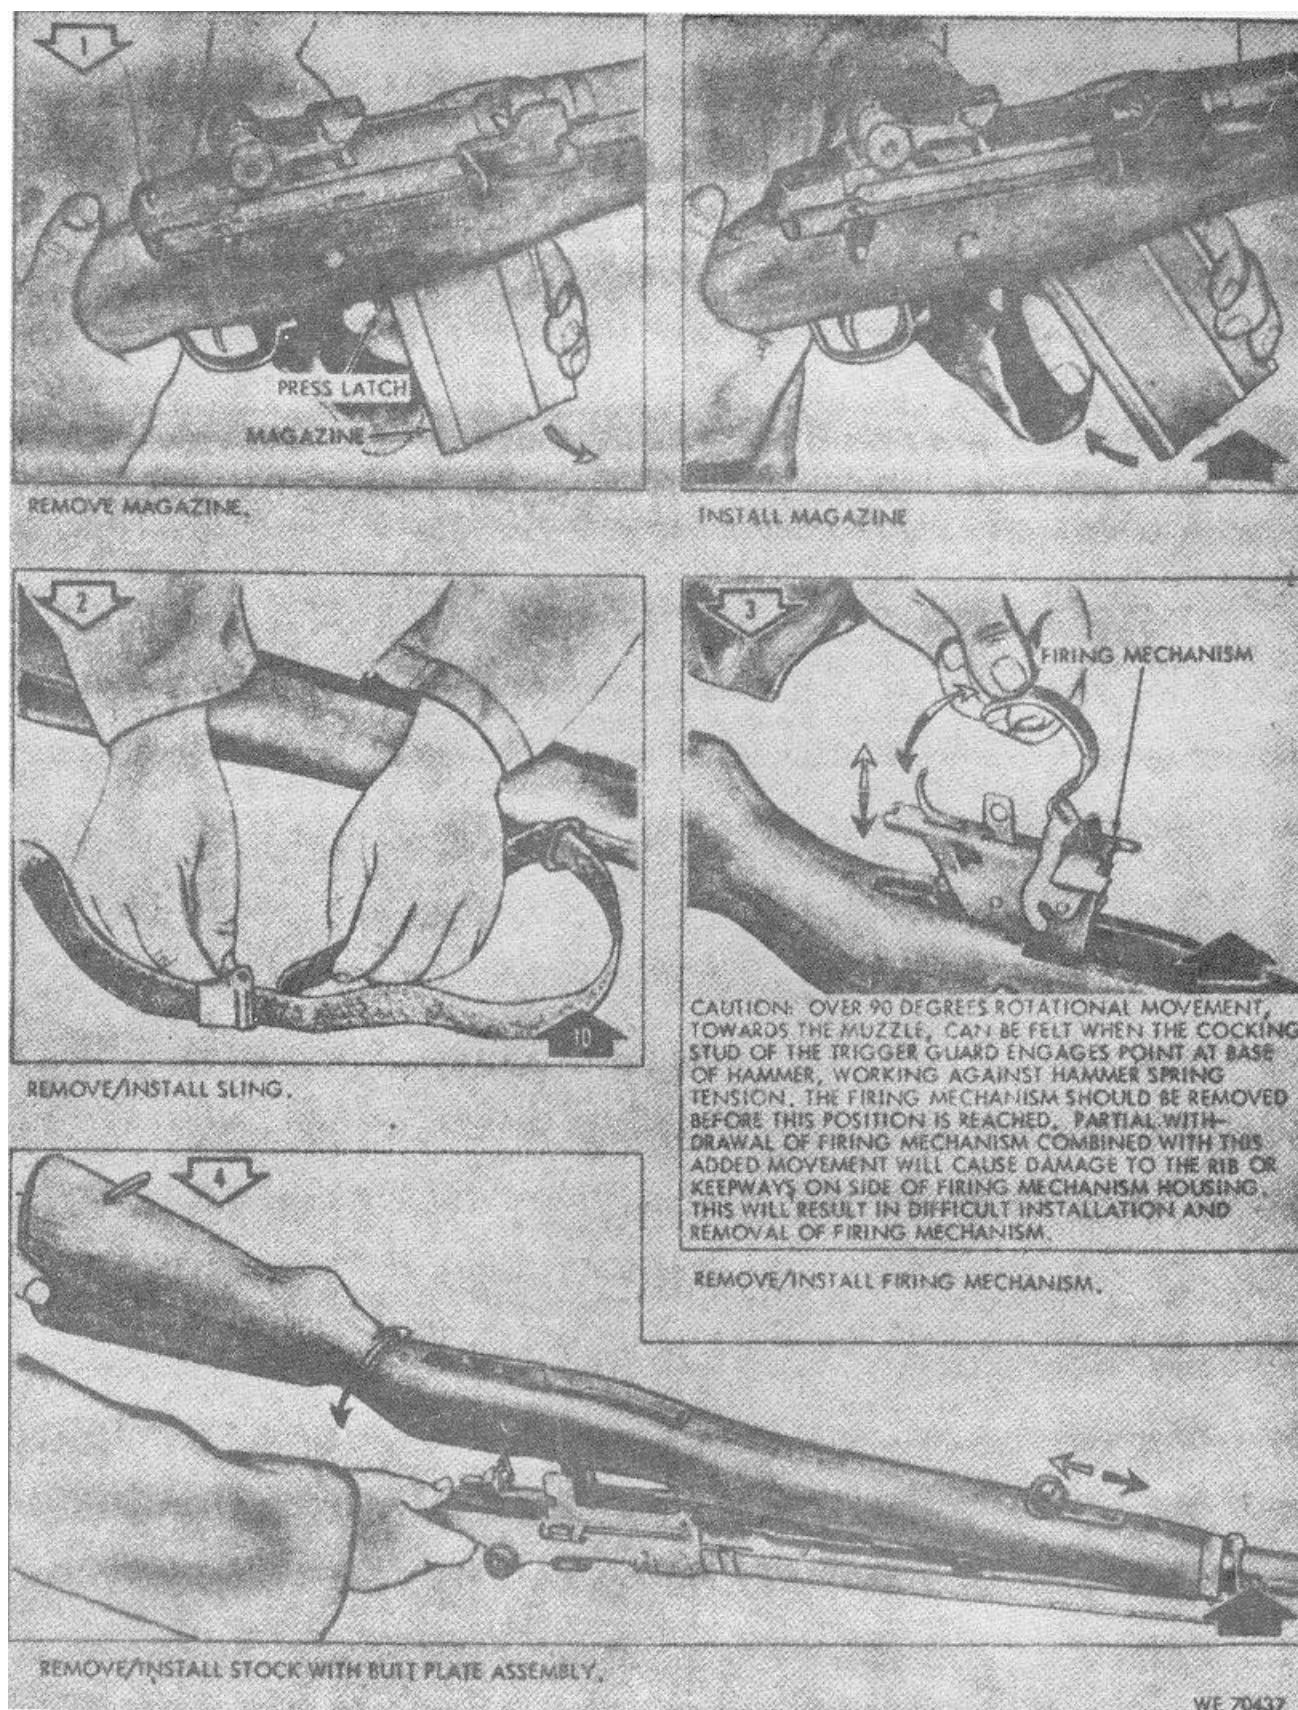
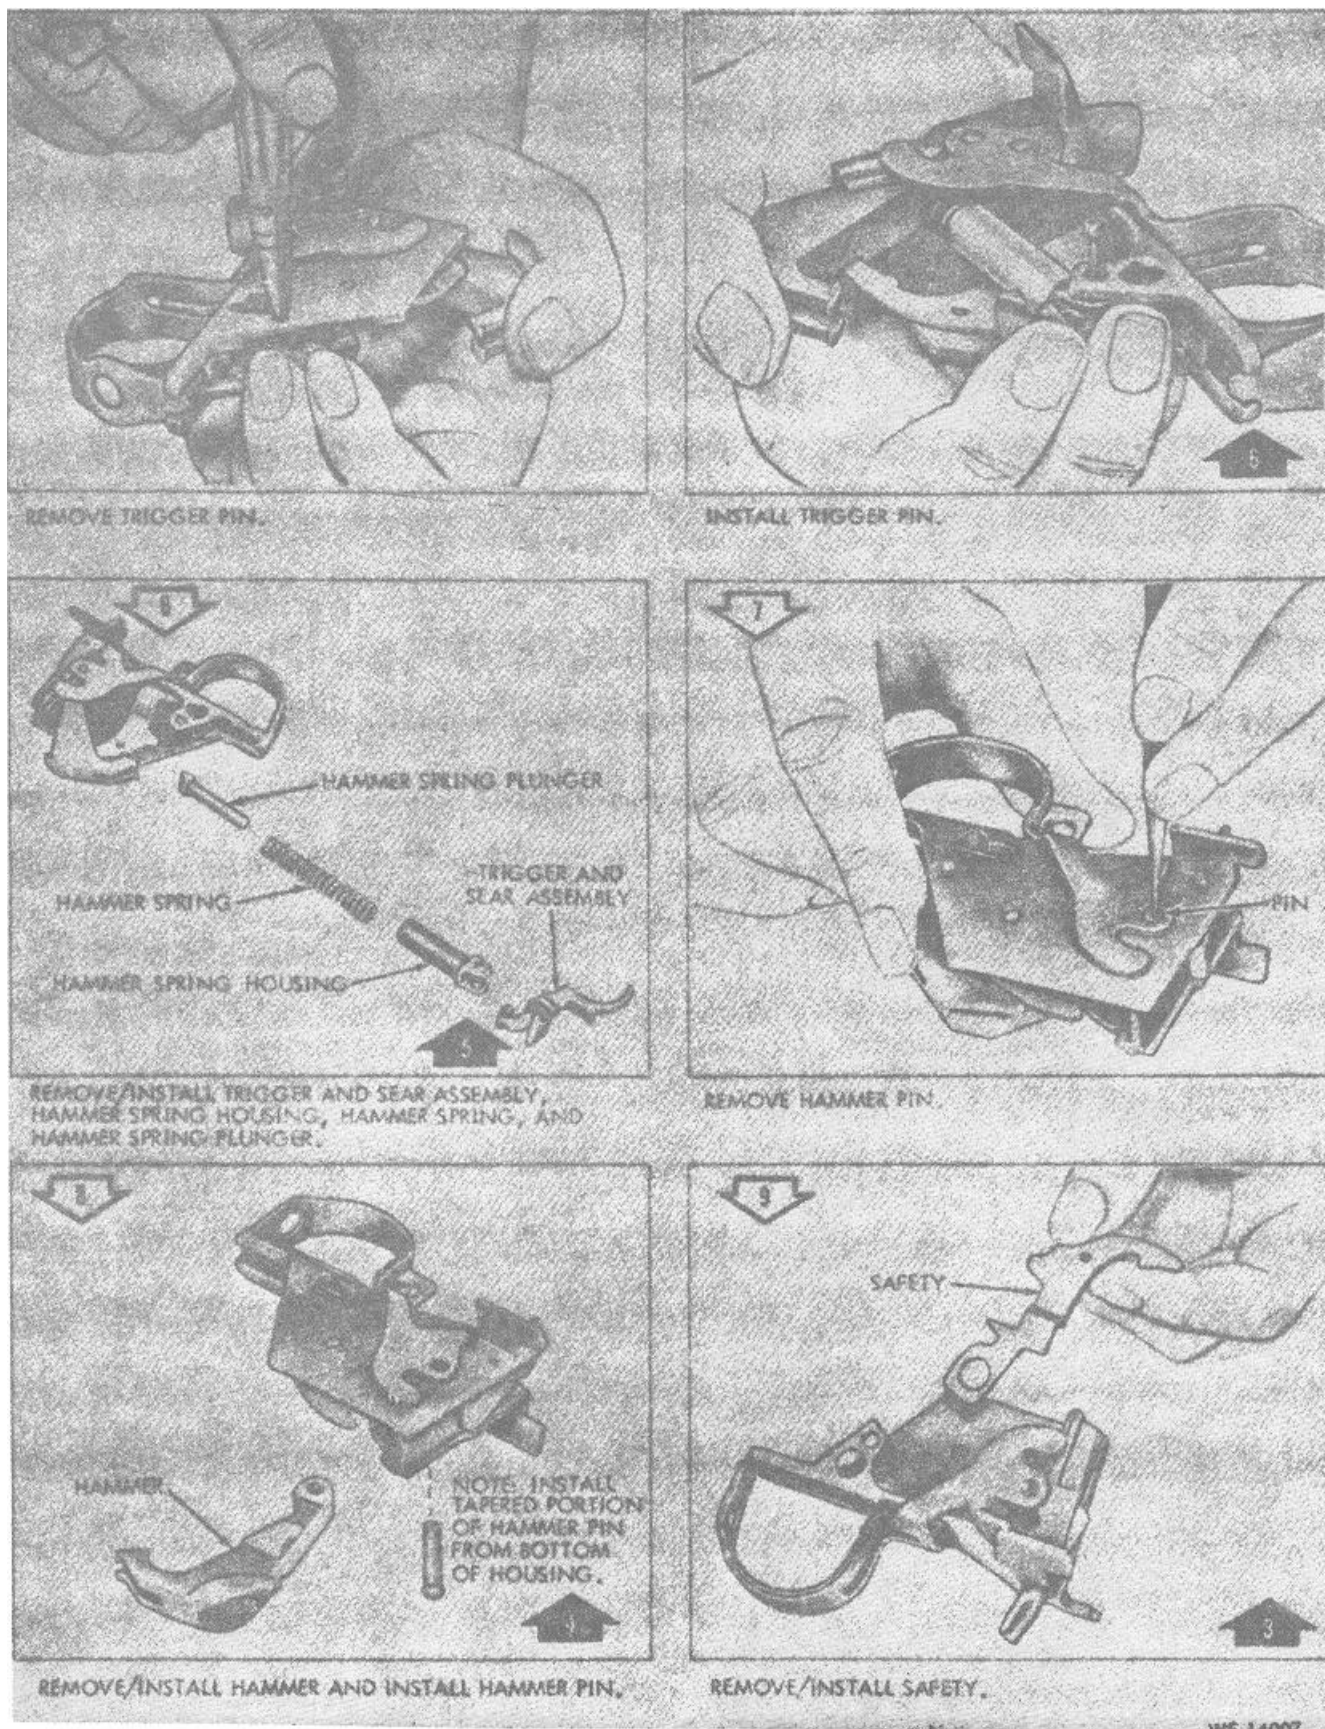

Figure 2-1. Disassembly/assembly of rifle components-partial exploded view.
Figure 2-2. Disassembly /assembly of firing mechanism.
b. Removal. Refer to figures 2-1 thru 2-3.
c. Disassembly. Refer to figures 2.2 thru 2-3.
d. Cleaning. Remove excess lubricant and contaminants from metal parts with a clean cloth or brush saturated with dry cleaning solvent (SD) or rifle bore cleaning compound (RBC). Wipe dry with a clean cloth.
g. Assembly. Refer to figures 2-1 through 2-3.
h. Installation. Refer to figures 2-1 through 2-3.